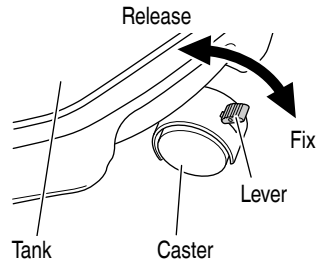

Fig. 23
(2) Fixation and release of the caster (Fig. 23)